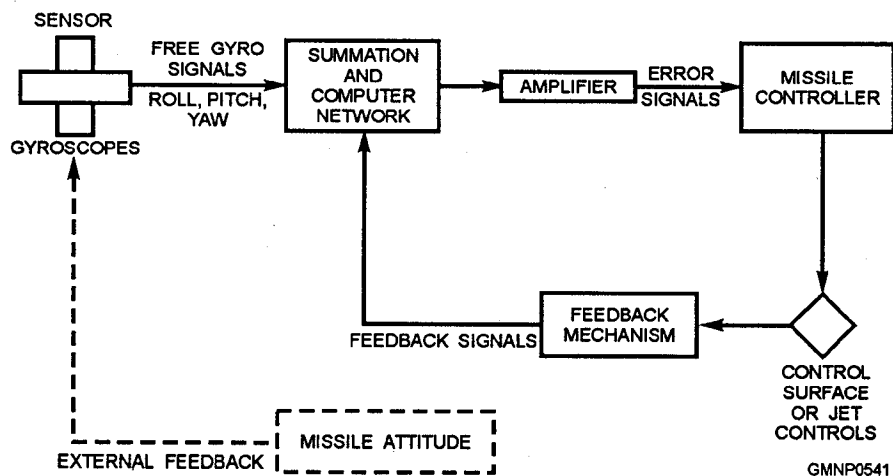
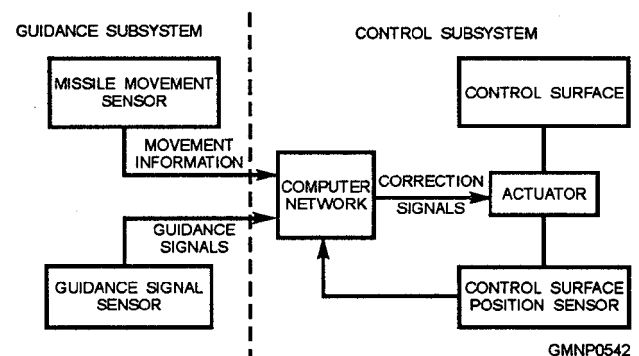

Figure 9-14.—A basic missile control system (servo).
Figure 9-15.—Basic missile guidance system.
**CONTROL SYSTEM OPERATION.**— A block diagram of a basic missile control system is shown in figure 9-14. Free gyroscopes provide inertial references from which missile attitude can be determined. For any particular attitude, gyro signals are sent from the gyroscope sensors to the summing network of the computer. These signals are proportional to the amount of roll, pitch, and yaw at any given instant.
Figure 9-15 is a simple block diagram of a basic guidance system. This system is very similar to a basic control system shown in figure 9-14. The two systems interrelate and interact in their operations.